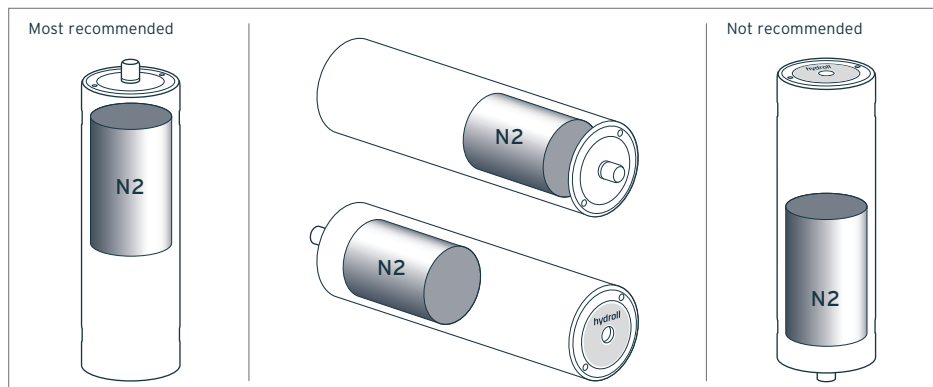

FIGURE 5.2 Mounting positions
6. Where possible, install the accumulator in an upright position with the gas side upwards. This will ensure the longest possible service life. Other positions are also allowed since the piston pressure accumulator construction will be functional regardless of the position. See figure 5.2.